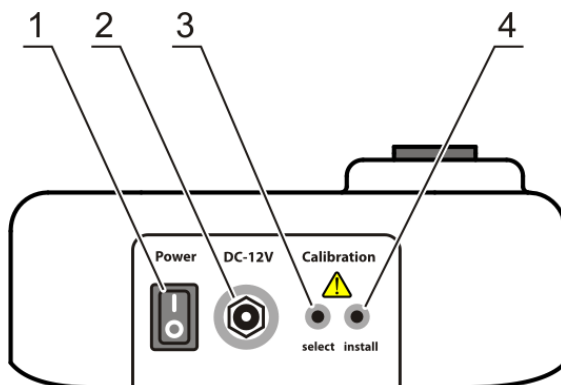

Figure 3. Back view
- Connect the external power supply unit into the socket at the rear side of the unit (fig. 3/2) and position the unit for an easy access to the external power supply and the power switch.
- 5.2 Connect the external power supply to electric circuit. Switch on the unit using the **Power** switch (fig. 3/1) on the rear panel.
- 6.4 Connect the external power supply to electric circuit. Switch on the unit using the **Power** switch (fig. 3/1) on the rear panel.
- 6.5 Press the **Select** button (fig. 3/3) on the rear of the unit.
- 6.6.1 **Empty socket.** Display shows $\cdot\cdot\cdot$ indication. Press **Install** button (fig. 3/4) to save empty socket value. Display shows next required calibration value.